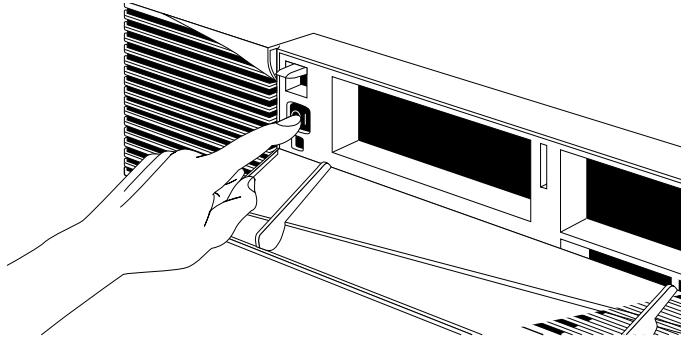

Figure 2-30 Pressing and Releasing the Power Switch
2. Press and release the power switch, as shown in Figure 2-30.